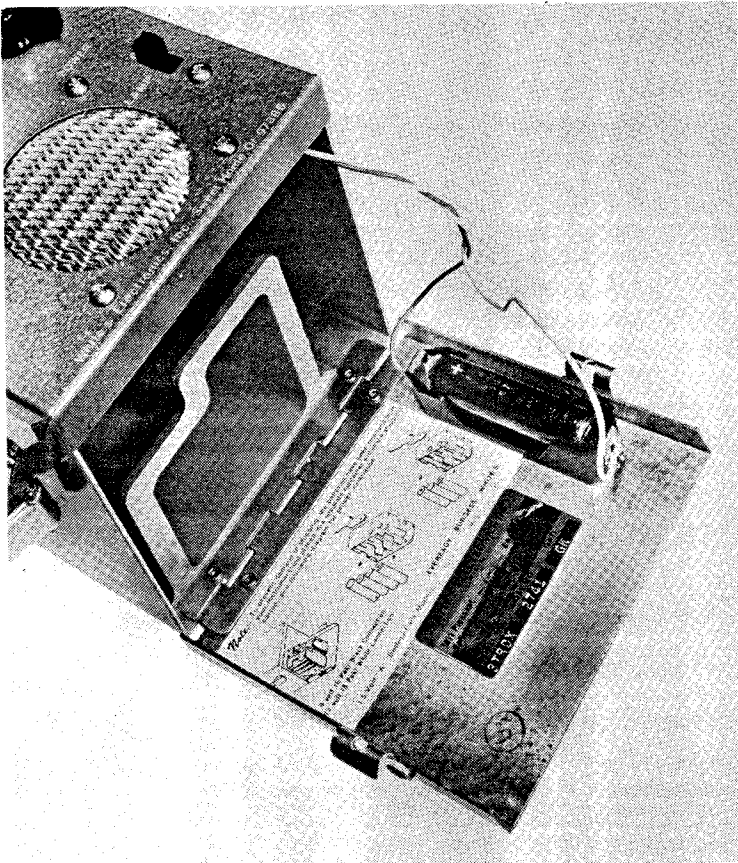

Figure 8
The Coinmaster Discriminator has a single-battery tester inside the battery access door. Single batteries may be removed from the battery packs and tested in this tester as shown in Figure 8. When testing single batteries in this way, the Function Switch (1) has to be in the "Off/1-cell" position.